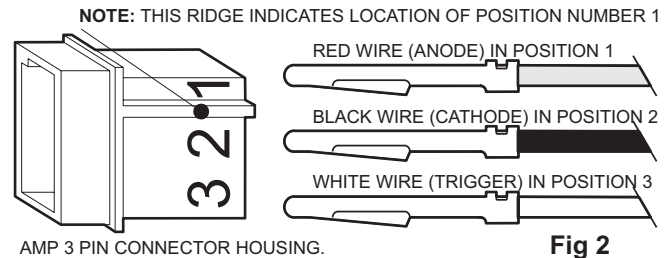

Fig 2
3. Fit the supplied 3 pin AMP connectors on the pins located on the end of the cables connected to the remote strobe light head assemblies, (Fig. 2) and insert into the proper strobe light outlets to conform to the desired strobe light system (See Pg. 4 & 5).
The Whelen remote strobe light head assemblies are supplied with a 3 conductor cable mounted to the units. On the end of each one of these cables are three pins factory crimped onto each of the three wires. After cables have been properly installed and routed, these pins will have to be inserted into the AMP 3 pin housings enclosed in the mounting kit. (Fig. 2).